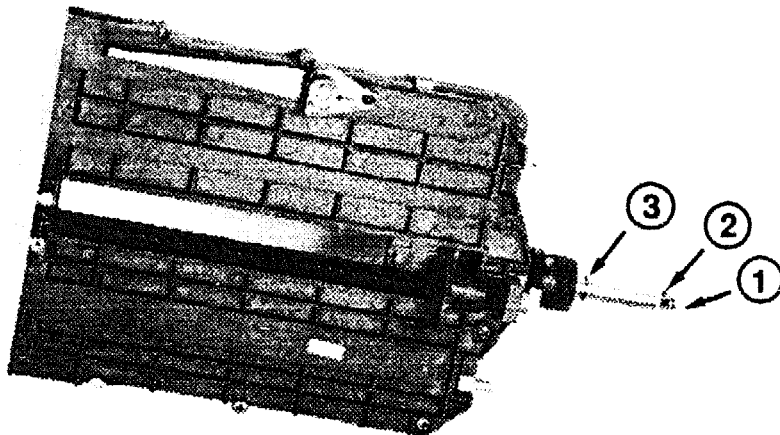

Figure 8-29.
4. Remove the single Pozidriv screw in the center of the shaft of the Picker (Figure 8-29 (1)). **Be sure to save the spring washer** (Figure 8-29 (2)).
Keep the thick spacing washer on the Picker shaft. (See Figure 8-29 (3)).